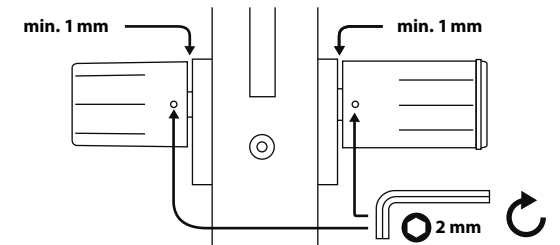

Abb. 103
- 6 Screw the hexagonal screws back into the two knobs (Fig. 103).